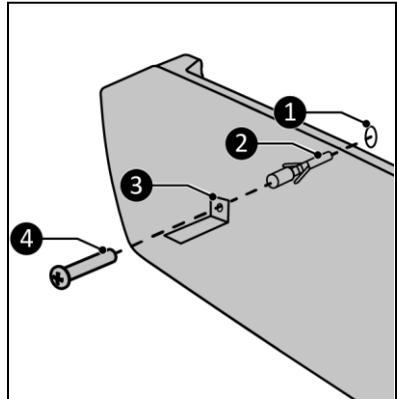

Figure 9
9. Place the bracket (Figure 9, pos. 3) on top of the heater with the short side against the wall.
10. Mark the location of the hole on the wall (Figure 9, pos. 1).
12. Drill a 10 mm hole in the marked location (Figure 9, pos. 1).
13. Insert the plug into the hole (Figure 9, pos. 2).
15. Firmly screw the bracket (Figure 9, pos. 3) to the wall (Figure 9, pos. 4).